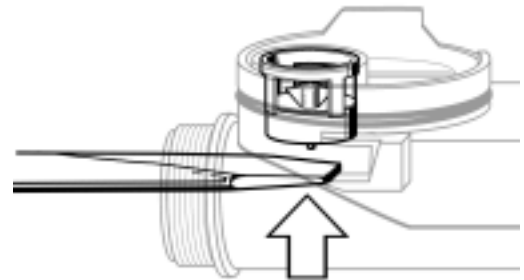

Fig. 5 - Non Return Valve Removal
5. While holding the exhaust valve assembly(1) and valve housing secure, turn the exhaust valve retaining collar(17) counter-clockwise until it has completely disengaged from the threads of the exhaust valve housing. Remove the exhaust valve assembly and set it aside.
7. Turn the valve module retaining collar(43) counter-clockwise to loosen and remove from the valve housing(21), and set the collar aside.
9. While holding the second stage assembly secure, firmly grasp the threaded fitting of the inlet chamber(40) between thumb and forefinger, and pull the valve module assembly(23) straight out of the valve housing, being careful to avoid stressing the lever as it exits the housing. Set the valve module assembly aside on a padded surface.
10. Using the pinch method, remove and discard the O-ring(19) from the bayonet connector of the valve housing.
11. Place a wide blade screwdriver inside the inlet opening of the valve housing, so that the blade rests flat beneath the center of the non-return inlet valve(20). (See Fig. 5.) Lift the screwdriver straight up to unseat the inlet valve, and pull it out from the opposite side of the valve housing. Closely inspect the non-return inlet valve to check for any signs of deterioration or curling of the diaphragm. If found, discard the non-return inlet valve and do not attempt to reuse.